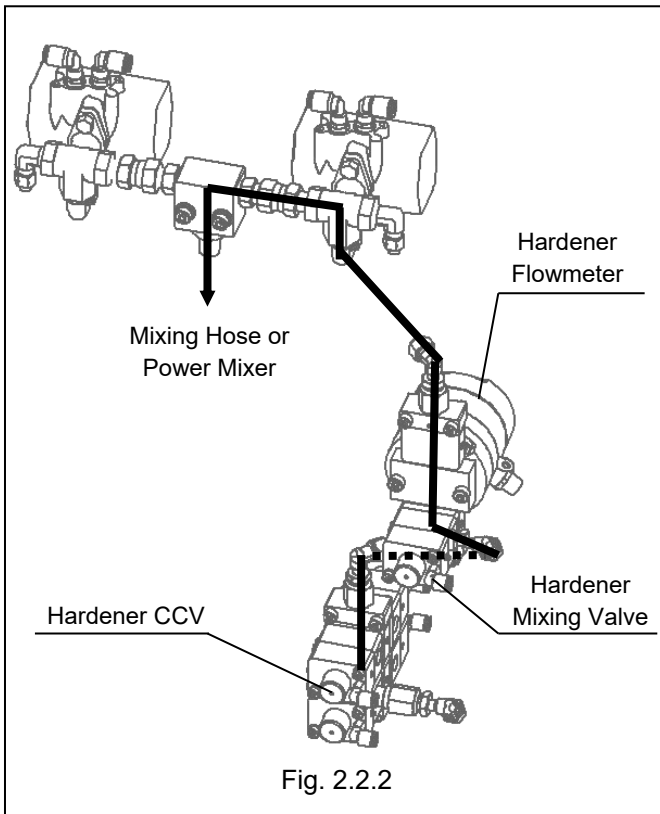
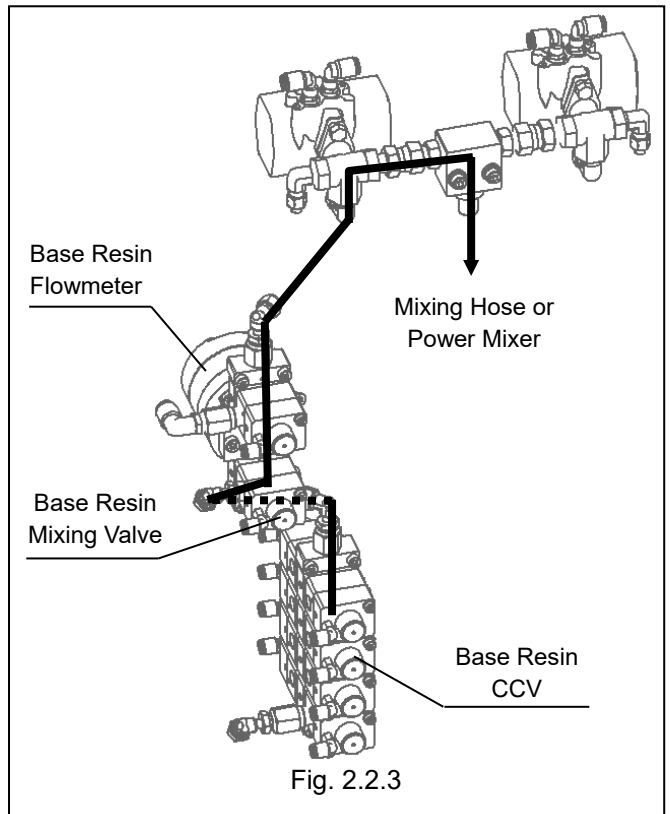

Fig. 2.2.2
Fig. 2.2.3
- (1) In the state of the **READY** lamp-on of the MAIN screen of the ACW controller, mixing and color change controls are available. In the state of the **READY** lamp-off, the mixed fluid is not sprayed even if the spray gun trigger is pulled.
- (2) As the trigger of a spray gun is pulled, the solenoid valve of Hardener Mixing Valve will be operated to start feeding hardener.
- (3) Hardener is fed through the flowmeter to the Mixing Hose or the Power Mixer. (See Figure 2.2.2)
- (4) The ACW controller controls the Mixing Valve according to the signals sent from the flowmeter to obtain the calculated target flow rate and accurately measures hardener feed into the Mixing Hose.
- (5) After supply of hardener is completed, the Base Resin Mixing Valve is operated to feed base resin in the similar manner. (See Figure 2.2.3)
- (6) Those steps are repeated to alternately feed base resin and hardener into the Mixing Hose or the Power Mixer.
- (7) The mixed fluid is prepared in the Mixing Hose for Static Mixer. It is supplied to the Static Mixer to completely mix, before supplying to the spray gun. In power mixer use, base resin and hardener are completely mixed by the Power Mixer.
- (8) When the spraying operation is stopped, the Mixing Valves that supplies fluid is closed. (This means that both of the Base Resin and Hardener Mixing Valve have closed). When the spray was begun again, the mixing valve that is closed is opened to start mixing. The trouble of hardening by the back-flow of mixed fluid is not generated between spray stops.
- (9) The Pot Life counter starts counting down right after the system is filled with the mixed fluid. As the spray gun trigger is pulled and the resetting point (flow rate) is reached, the Pot Life counter is reset for restarting. In short, the countdown continues as long as the mixed fluid is left unused for spraying.
- (10) During the flushing process at the end of coating work, the Pot Life counter does not count down.